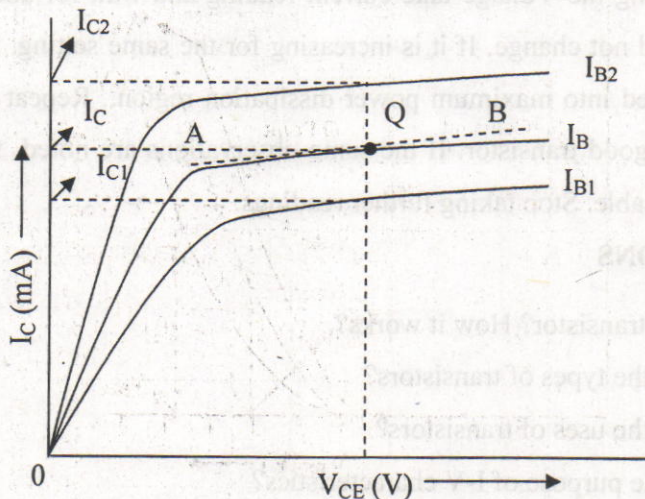

Fig.4.4
1. To determine h_{oe} , select an operating point Q on the output characteristics as shown in Fig.4.4.
4. To determine h_{fe} , draw a dotted perpendicular line passing through Q and to touch the X-axis. This will be extended to intersect the two curves as shown in Fig.4.4.